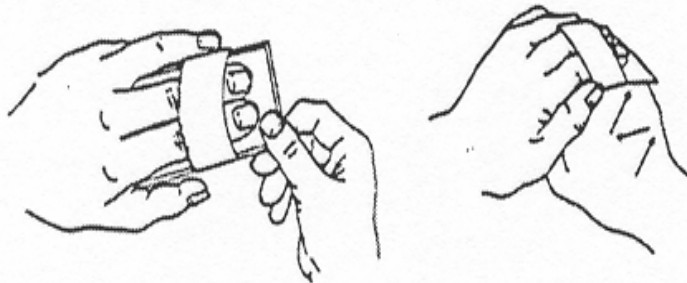

Figure 4-2. Unfolding applicator pad and scrubbing skin on back of hand.
- e. Remove applicator pad from packet and discard packet (see Figure 4-2).